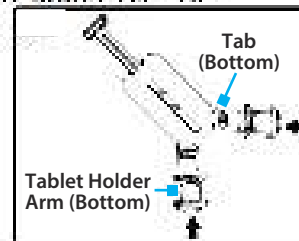

Figure 3
4. For **Tablet** sizes of 7.9 - 10 Inches (200.66 - 254 mm), slide and hold the **Tab** on one of the bottom **Tablet Holder Arms** while pushing the **Tablet Holder Arm** inwards to collapse the **Tablet Holder Arm**, then release the **Tab**. (Figure 3)